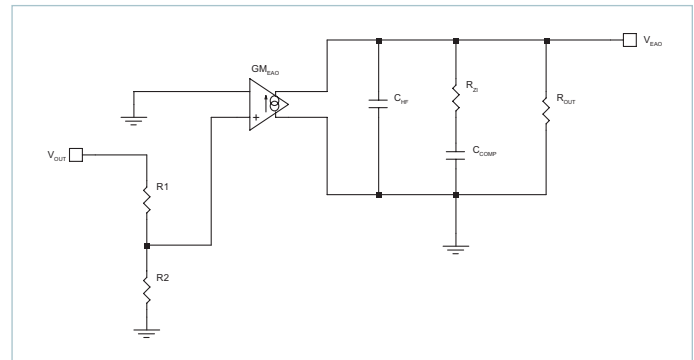

Figure 56 — PI354x-00 Error Amplifier Model
The small signal model of the error amplifier and compensator is shown in Figure 56. The error amplifier is a trans-conductance amplifier (TCA). The transfer function is shown in Equation (6), where in this example  $R1 = 2.3k\Omega$ ,  $R2 = 1k\Omega$ ,  $GM_{EAO} = 5.1mS$ ,  $R_{OUT} = 1Meg$ ,  $C_{HF} = 56pF$ ,  $C_{COMP} = 4.7nF$  and  $R_{Z1} = 5k\Omega$ . Here it is important to note that the external components are  $C_{COMP}$ ,  $R1$  and  $R2$ . The other components are internal to each specific model. See the data tables section "Soft Start, Tracking And Error Amplifier" for details.